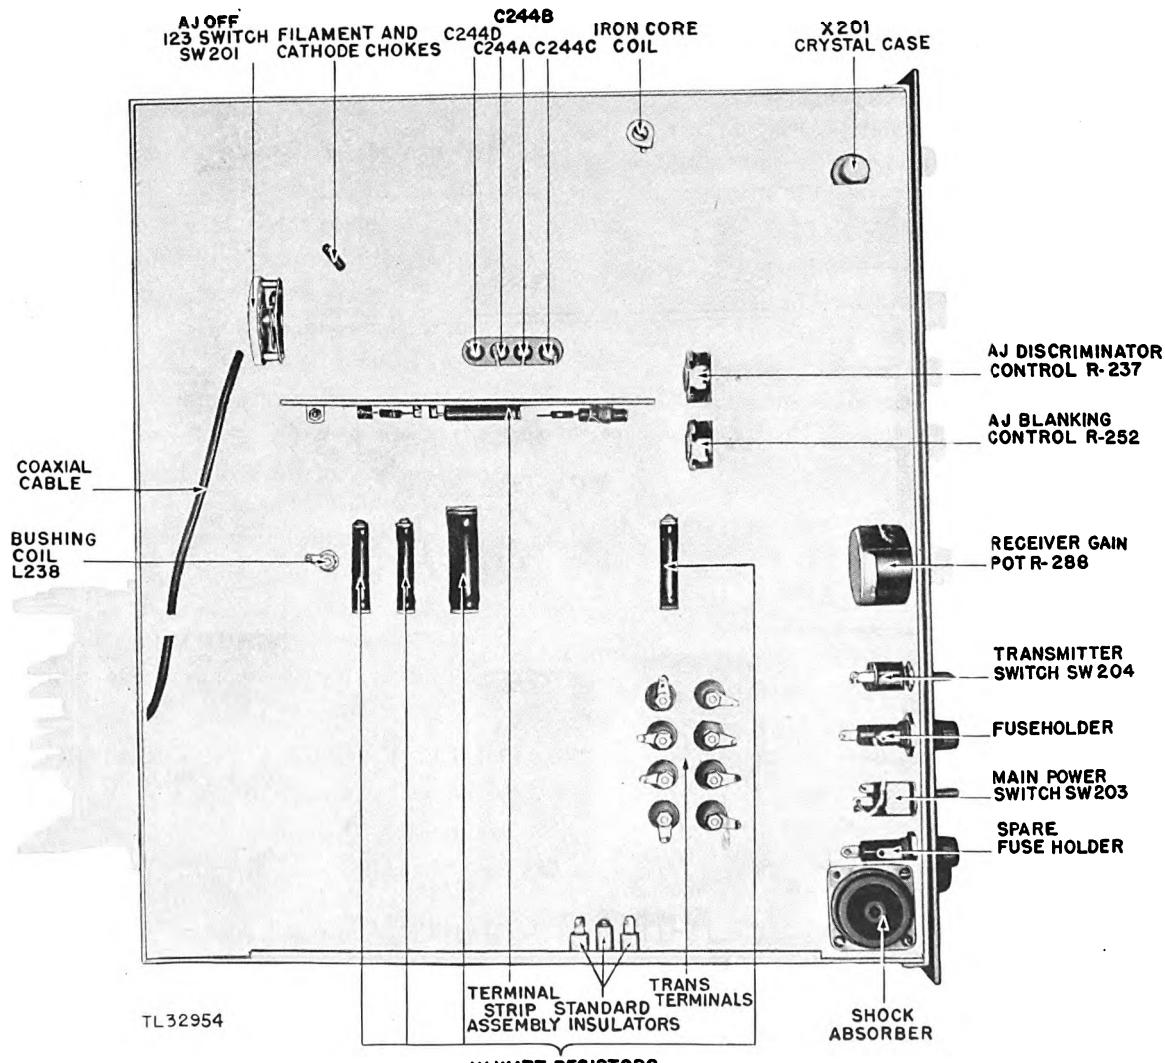

Figure 21. Underside of receiver chassis.
- (2) After the receiver chassis has been removed to the work bench, short circuit *all* capacitors whose terminals are mounted on insulated bushings. Use an insulated screwdriver.
- (3) Avoid contact with the hot glass of the tubes for at least 10 minutes after the power has been turned OFF.
- (4) Avoid contact with the hot surface of the high-wattage resistors R265, R284, R286, and R285 for at least 10 minutes after the power has been turned off (fig. 21).
a. *Location.* See figure 21.
- (c) The leads of capacitor C244 (A, B, C, and D) (fig. 21) for proper soldering.
- 1. General condition of coating (fig. 21). Make sure that the windings of the resistors are not exposed. Ex-
- (f) The fuse holders (fig. 21) for:
- (g) All standoff insulators for general condition (fig. 21). Make sure the mountings are secure.